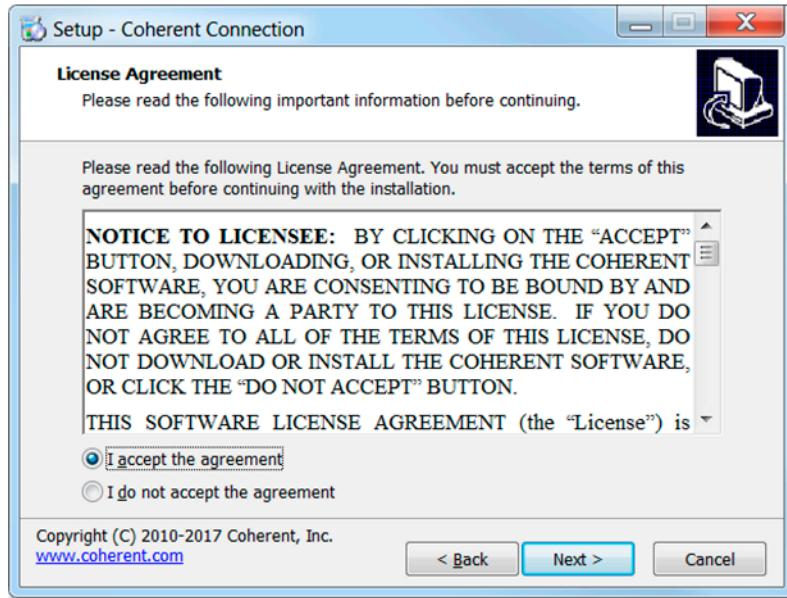

Figure 8-6. Coherent Connection 4 License Agreement
7. Read the instructions, then click Next. The License Agreement shown in Figure 8-6 is displayed.